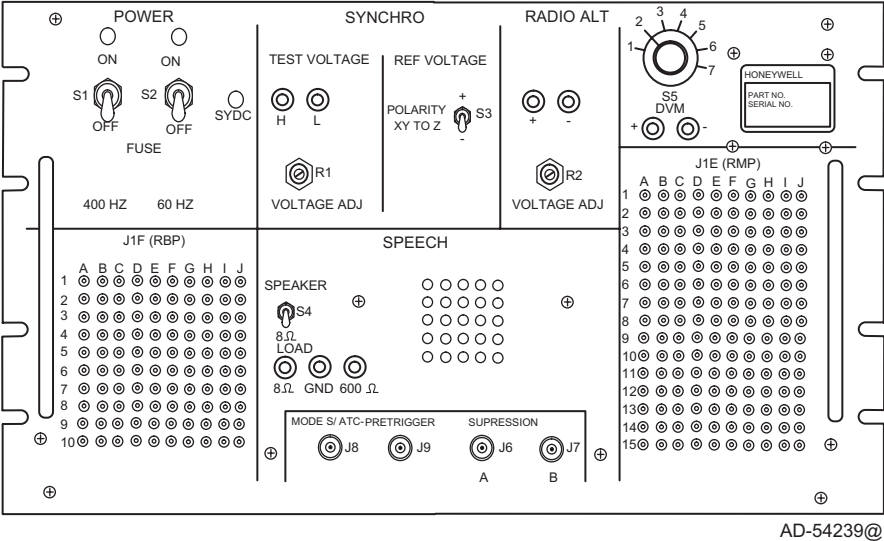

Figure 7. Aircraft Interface Unit
* Aircraft interface unit - Part No. T336253 (see figure 7)